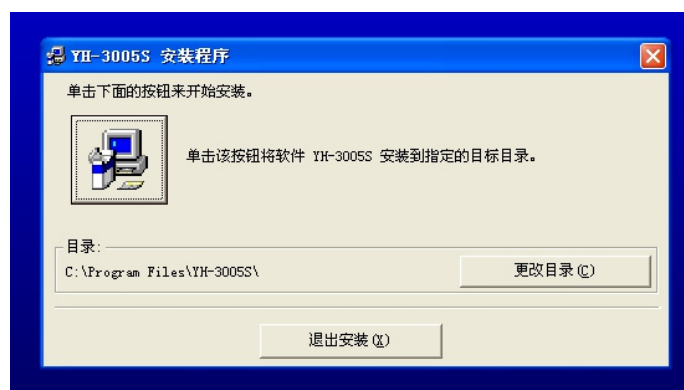

Figure 3
3. Click 'OK', if you want to change installation directory, please click "Change directories" then click install, as figure 3